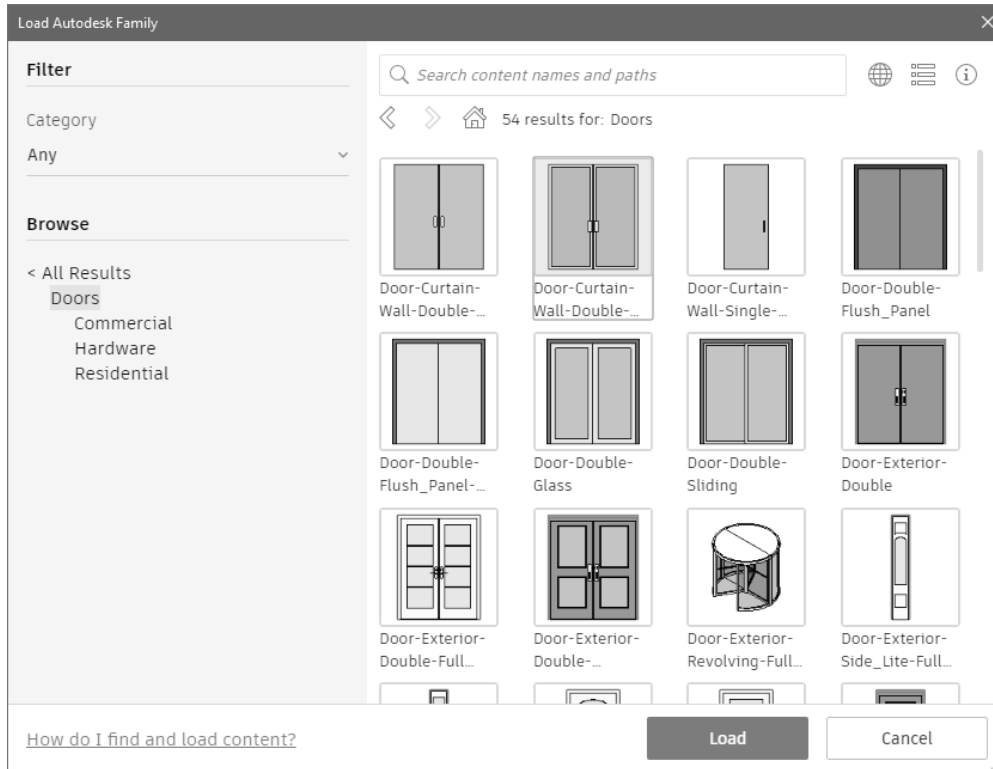

FIGURE 3-5.2 Door families on hard drive
4. Open the **Doors** category and then select **Door-Curtain-Wall-Double-Storefront.rfa**, and then click **Open** (Figure 3-5.2).